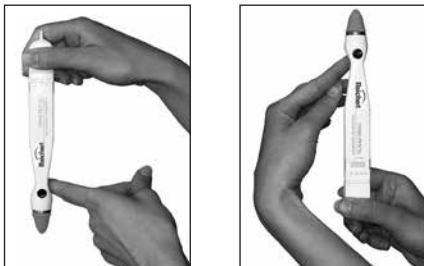

Figure 5 Calibration Procedure - Up - Down
1. Point the transducer end of the Tono-Pen straight down towards the floor. Refer to Figure 5.
4. Immediately (within 1 second) invert the Tono-Pen smoothly, pointing the transducer end straight up. Refer to Figure 5.